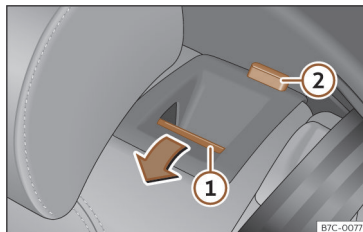

Fig. 87 Rear seat: folding down the backrest.
- Press the unlock button >>> Fig. 87 ① forwards and at the same time fold the backrest down. The rear seat backrest is not engaged when the red marking of the button ② is visible.